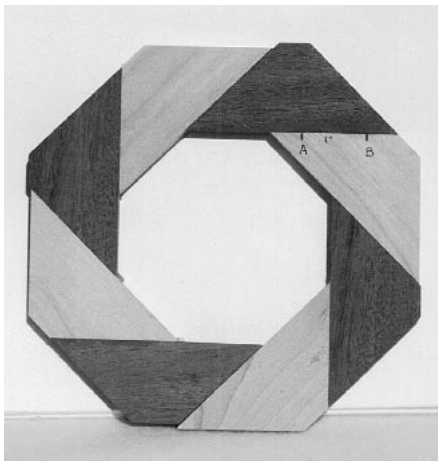

Figure 9: Assemble the glued pairs of segments into rings, making sure that the joints are tight in the middle of the joint line (A-B).
3. Bring the pairs together to form the ring (Figure 9). This is where the use of the overlapping eight-segment ring helps. Notice that the faces to be glued are either parallel or perpendicular to each other. This “squared” condition makes manual adjustment of the four pairs fairly simple compared to trying to move all eight pieces (or other count combinations with their differing angles) at one time. Here is where the errors and problems relating to stock cutting come home to roost. If all the cut faces meet nicely, you have been lucky or very precise. Even with the best attention and care, problems will often appear at this point. Some sources suggest handling this by gluing pairs into fours and sanding or planing to close gaps. I have tried this with discouraging results. If you have been careful in your cutting, you should be able to manipulate the pieces so that they all join well in the
center inch of the joint widths (Figure 9, line A-B). Since this is the continuous zone containing the stock for the final turning, results should be satisfactory. If this is not possible, cutting new pieces for this ring is the only real alternative—but check the saw setup first.